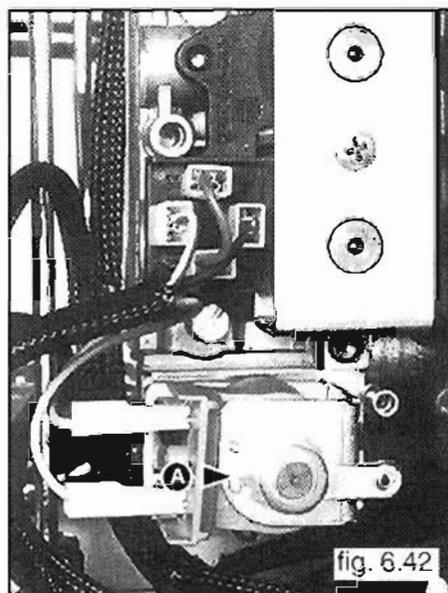

fig. 6.42
- 3 Turn the protection cap "A" and remove it from the adjustment control. Use a flat-edge screw driver to help removal (see fig. 6.42);